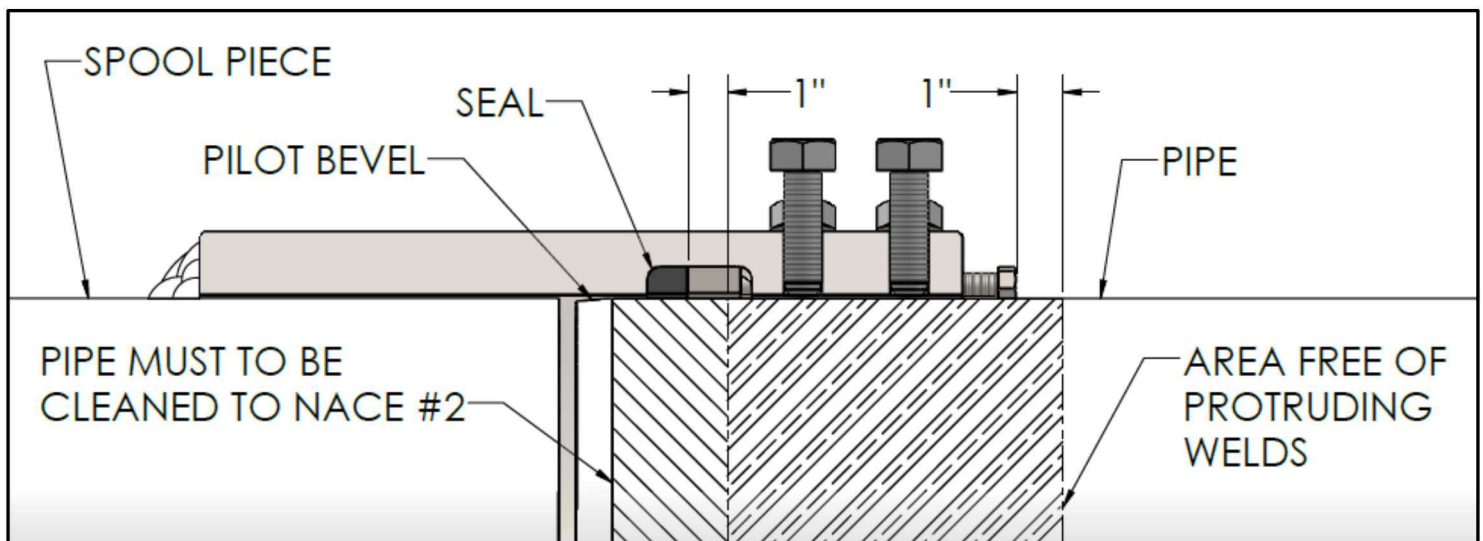

Figure 2
3. Cut the existing pipe end reasonably square with any sharp ends or burrs removed. A generous taper or pilot bevel is recommended for misaligned or out-of-round pipe to allow for easy assembly as shown in Figure 2. This will eliminate the risk of damage to the seals while slipping the Riser Weld+End over the end of the pipe.
5. The area around the location where the seal will come into contact with the pipe must have a finer cleaning. A near-white finish, as noted in SSPC-SP10 / NACE No.2, is preferred in and around the seal area as shown in Figure 2. The cleaner the pipe surface, the more positive the seal. Sandblasted surfaces should be buffed till smooth to remove roughness.